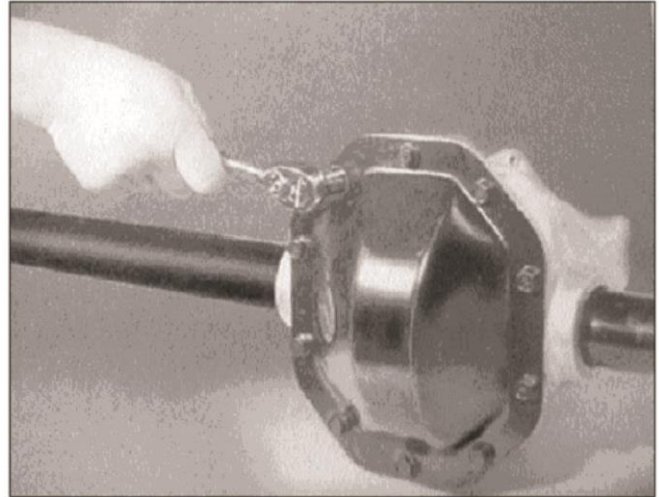

Figure 7-32
1. Remove ten cover plate bolts (Figure 7-32).